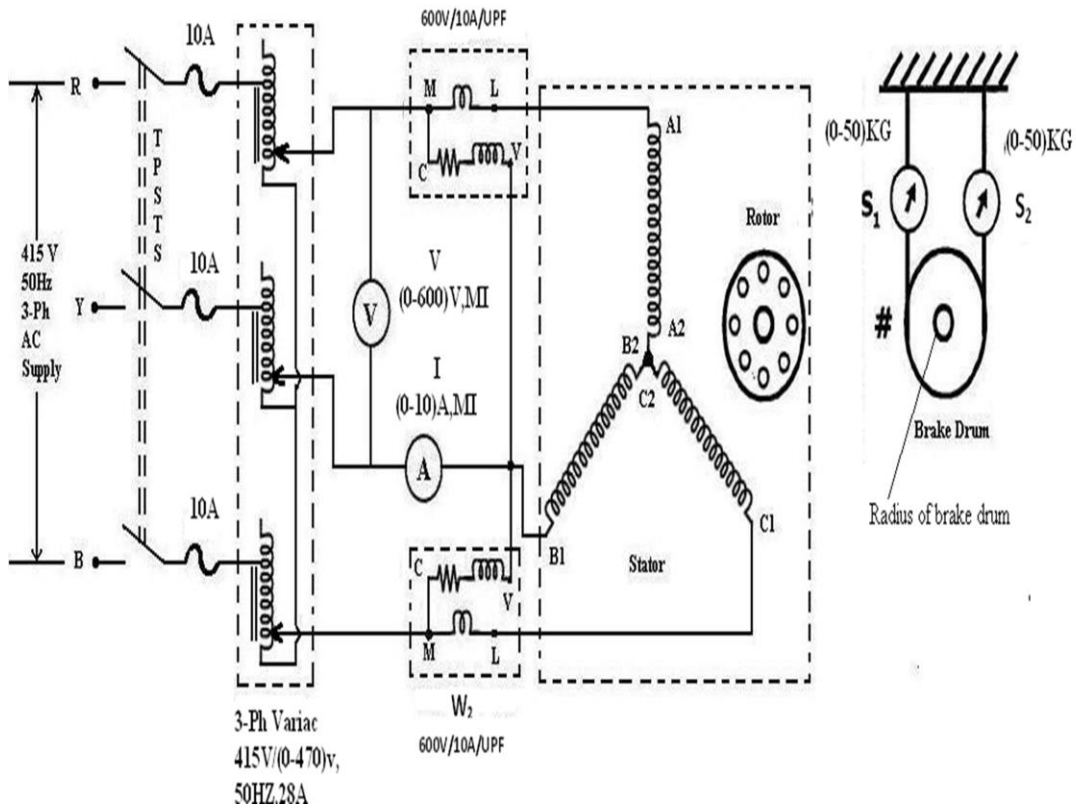

Fig 9.1: Circuit diagram for brake test
1. Connect the circuit as per the Fig 9.1.
S.No	V (v)	I (A)	W 1 (W)	W 2 (W)	S 1 (Kg)	S 2 (Kg)	% Slip	T sh (N-m)	Output (W)	Input (W)	% $\eta$